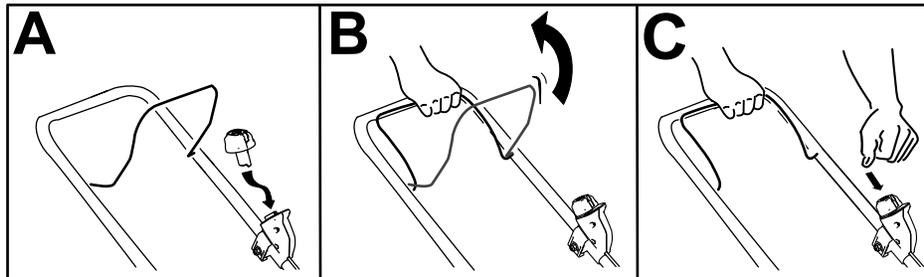

Figure 9
2. Insert the electric-start button into the electric starter switch (A of Figure 9).
3. Squeeze the blade-control bar and hold it to the handle (B of Figure 9).
4. Press the electric-start button and keep it pressed until the motor starts (C of Figure 9).